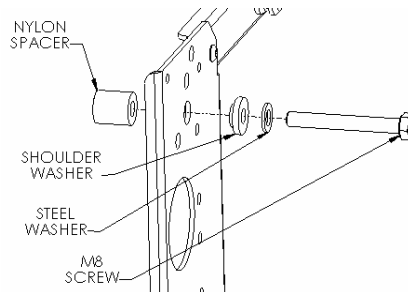
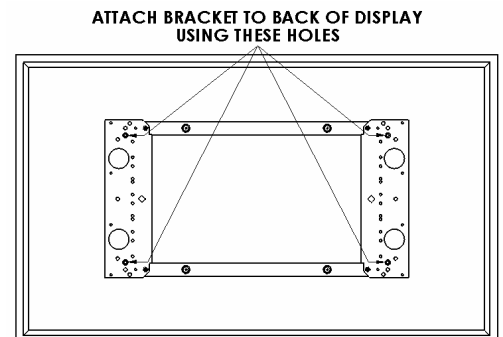

Figure 6
Figure 7
3. for 42" models, stack white and short black nylon spacers over mounting holes on back of screen and use 100mm screws. For 50" models, use the 80mm screws and long black spacer. Attach mounting brackets to display using the M8 screws, shoulder and steel washers (see Figure 6 & Figure 7).